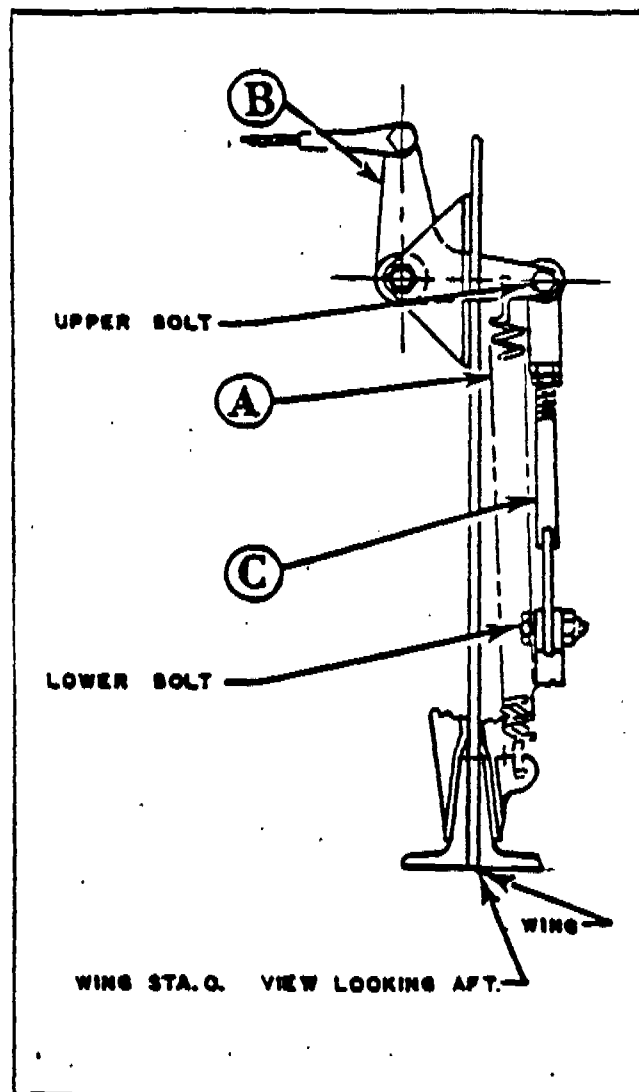

Figure 8 - Adjustment of Cable and Rod
(1) Jack up the airplane.
(2) Remove both hinge springs, and spring "A" on bell crank. (See figure 8.)
(3) Adjust cable so vertical arm of bell crank will travel an equal distance both sides of vertical with the travel of the gear.